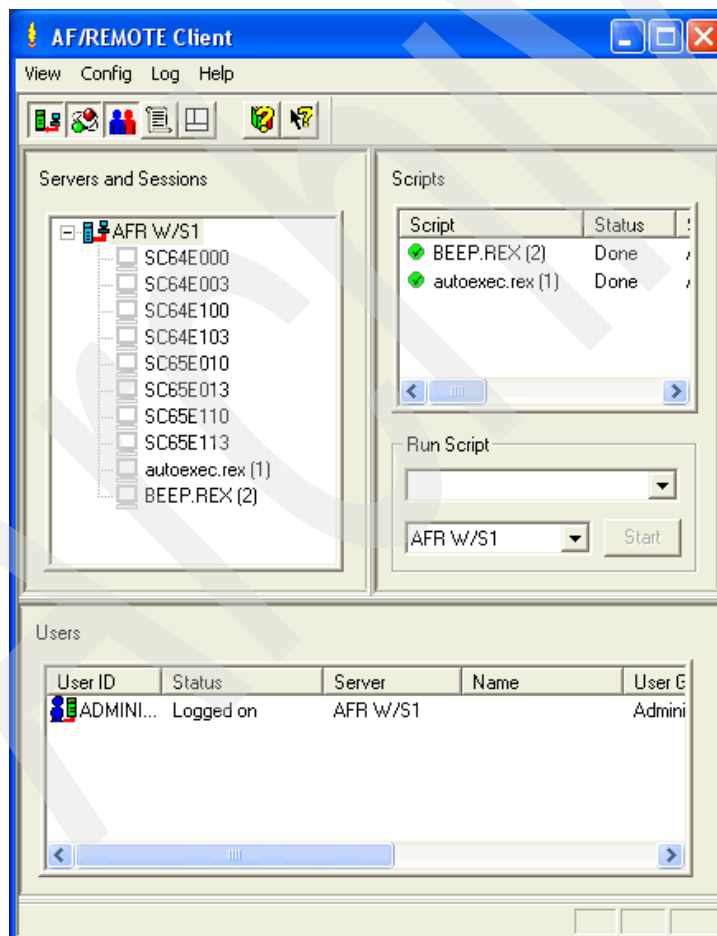

Figure F-14 AF/REMOTE Client panel - part 2
18. Click **OK** on the password warning message panel. The AF/REMOTE client is now connected to the AF/REMOTE server. The server tree view in the Sessions and Servers pane lists all TN3270E sessions defined to the AF/REMOTE server (see Figure F-14).